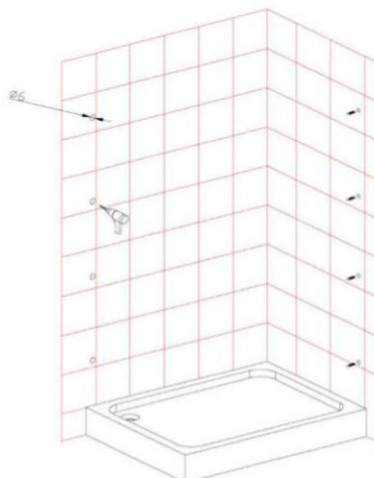

Fig 3
3. Drill the holes ($\varnothing 6$ mm) according to the marks, and insert the wall plugs (18) into the holes as shown in figure 3.